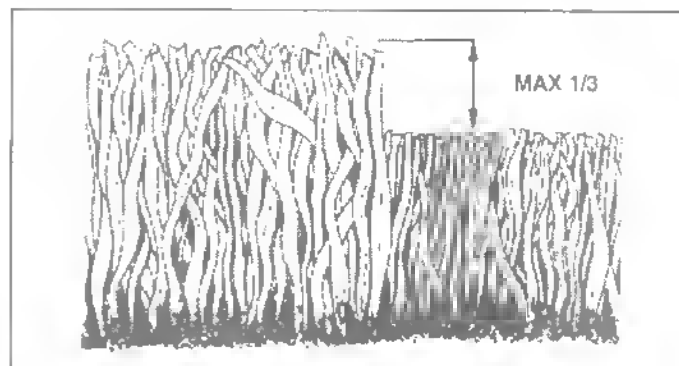

FIG. 11
- For best results, adjust the lawn mower cutting height so that the lawn mower cuts off only the top one-third of the grass blades (See Fig. 11). If the lawn is overgrown it will be necessary to raise the height of cut to reduce pushing effort and to keep from overloading the engine and leaving clumps of mulched grass. For extremely heavy mulching, reduce your width of cut by overlapping previously cut path and mow slowly.